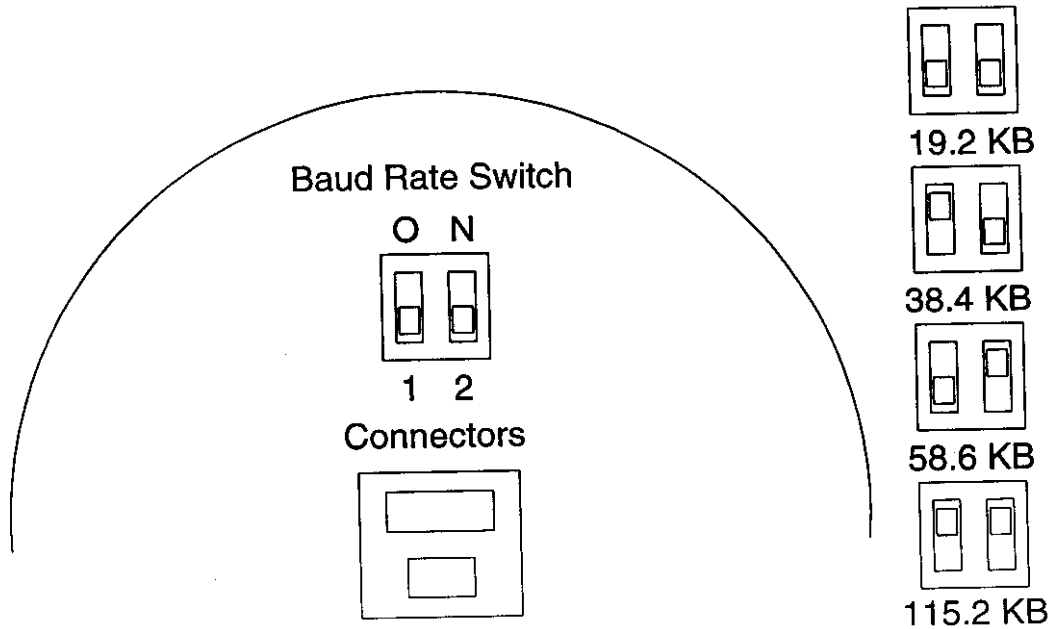

Figure 1. Baud Rate Switch Settings
- Baud Rate: Four switch-selected rates (115.2, 57.6, 38.4, and 19.2 Kbaud), see Figure 1
Baud rate between application and Target is switch selected in four steps (19.2, 38.4, 57.6, and 115.2 KBaud) via Target Baud-Rate switch-pair. See Figure 1 for a diagram of the switches.